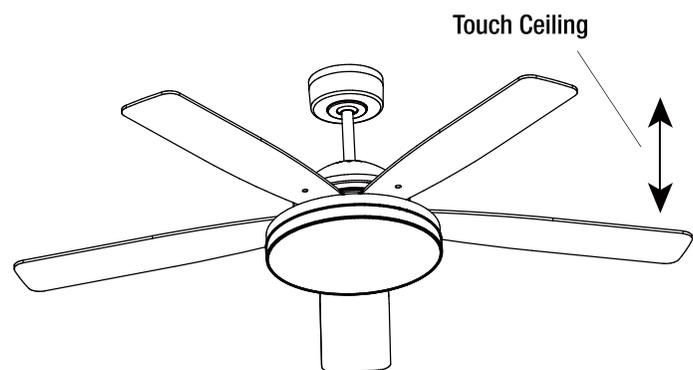

Figure 16
- Most fan wobble problems are caused when blade levels are unequal. Check this level by measuring the distance from the tip of one blade to the ceiling as shown in Figure 16. Rotate the fan until the next blade is positioned in the same place as the previous blade and measure again. Repeat for each blade. Measurements should be within 1/8 in.
Excessive Wobbling.	<ul style="list-style-type: none">□ Make sure that screws which attach fan blade holders to motor are fastened and tightened.□ Tighten screws of fan blade to blade holder securely.□ Ensure that canopy and mounting bracket are tightened securely to ceiling joist.□ Check by selecting a point on the ceiling above the tip of one of the blades. Measure this distance and ensure all blades are even (see Fig. 16).